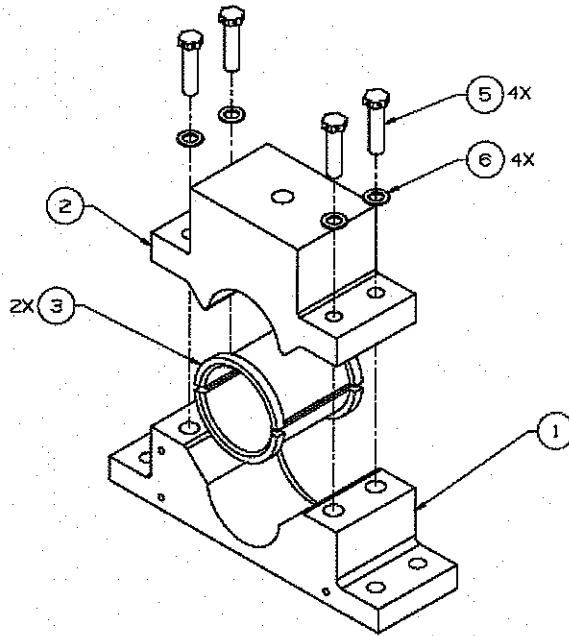

Figure 15
22. Remove the bottom of the Trunnion Block Assembly bearing , item 3 of Figure 15. Bag these with the upper half of the bearings removed previously. Store all of these parts for later reuse.